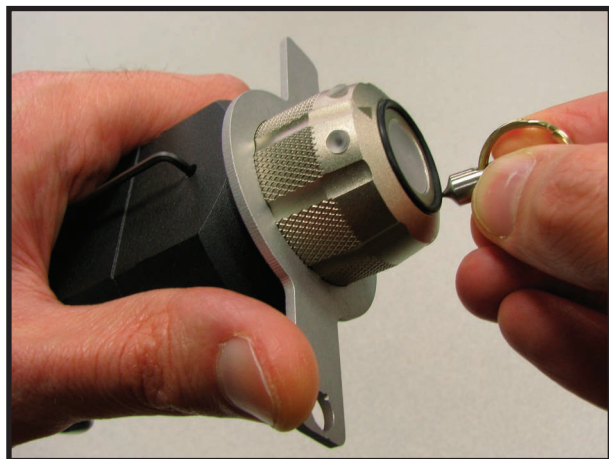

Figure 3: Unscrewing the Knob
- 3.3) While keeping the pin fully depressed, use the spanner wrench to provide torque to slightly rotate the knob counter-clockwise approximately 10 degrees. It is easiest to use one hand to apply pressure to both wrenches and the other hand to insert the pin. See Figure 3.